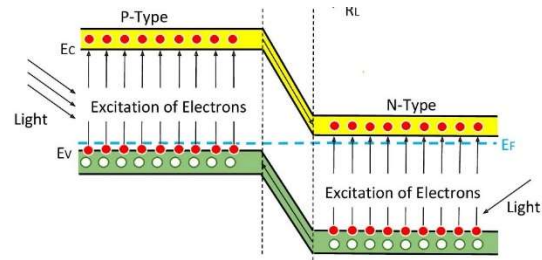

Figure 14d: Working
2. When energy in the form of solar radiation falls on the p-n junction, the electrons from the valence band get excited and reach the conduction band as shown in *Figure 14d*.